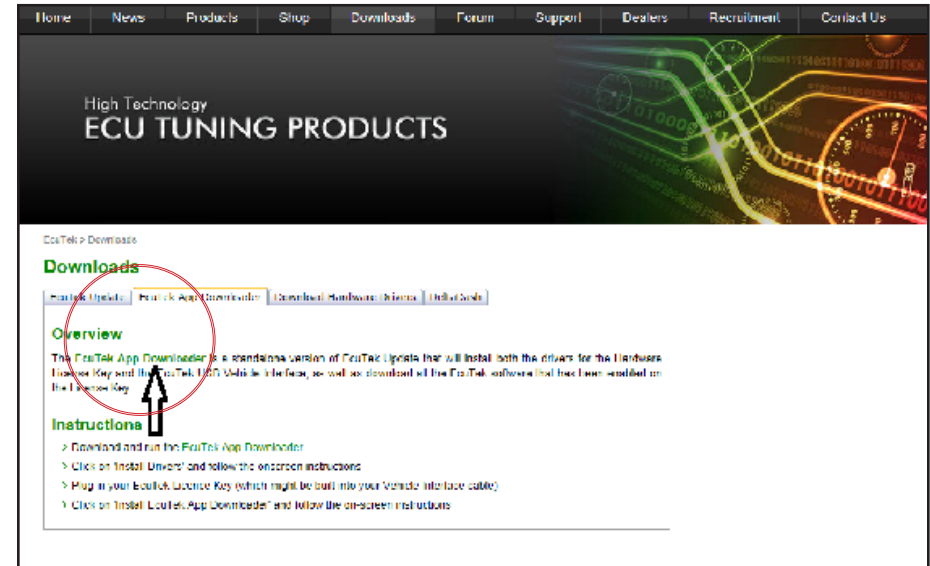

Fig. 1B
- B. After you have selected the [Downloads] tab, select [EcuTek App Downloader] in the next window. See arrow in fig 1B.